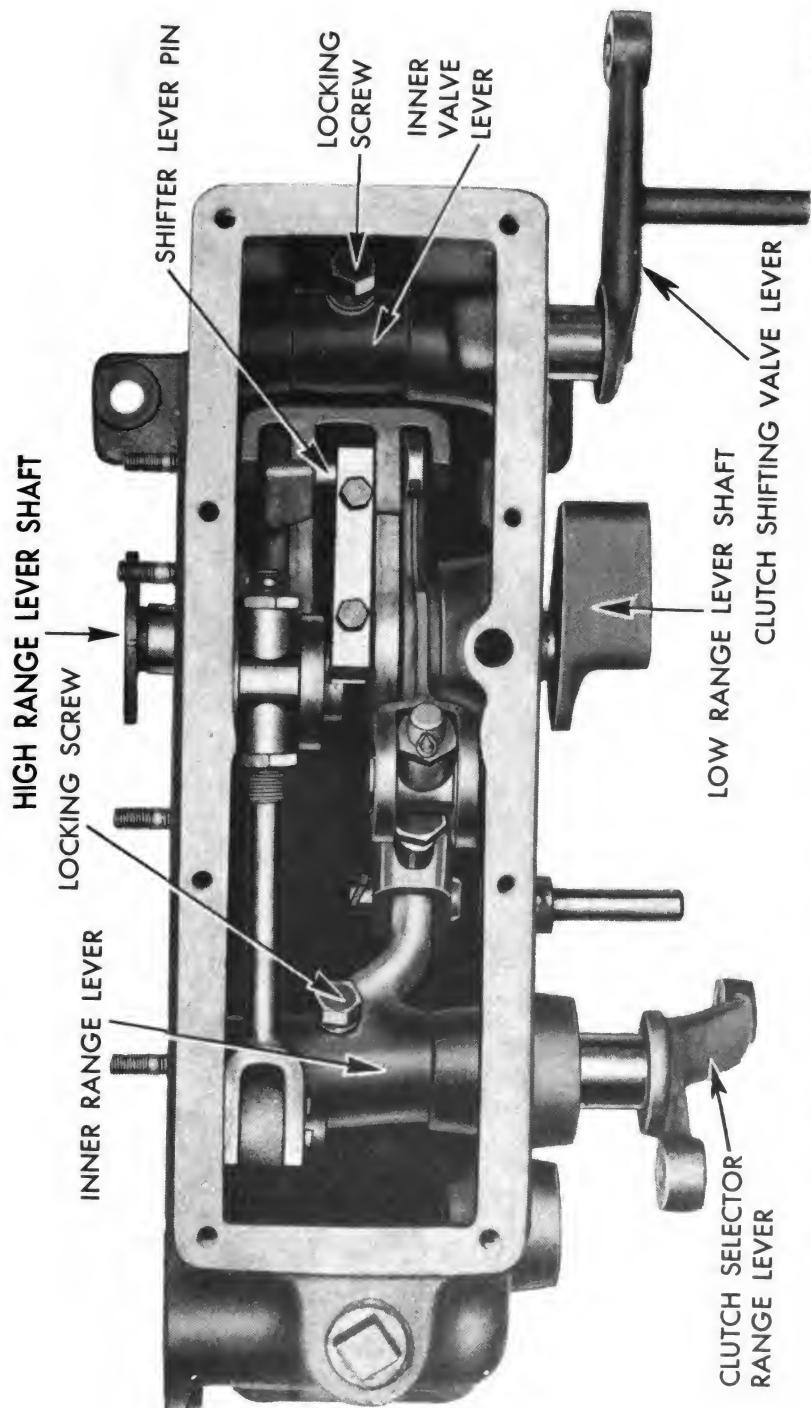
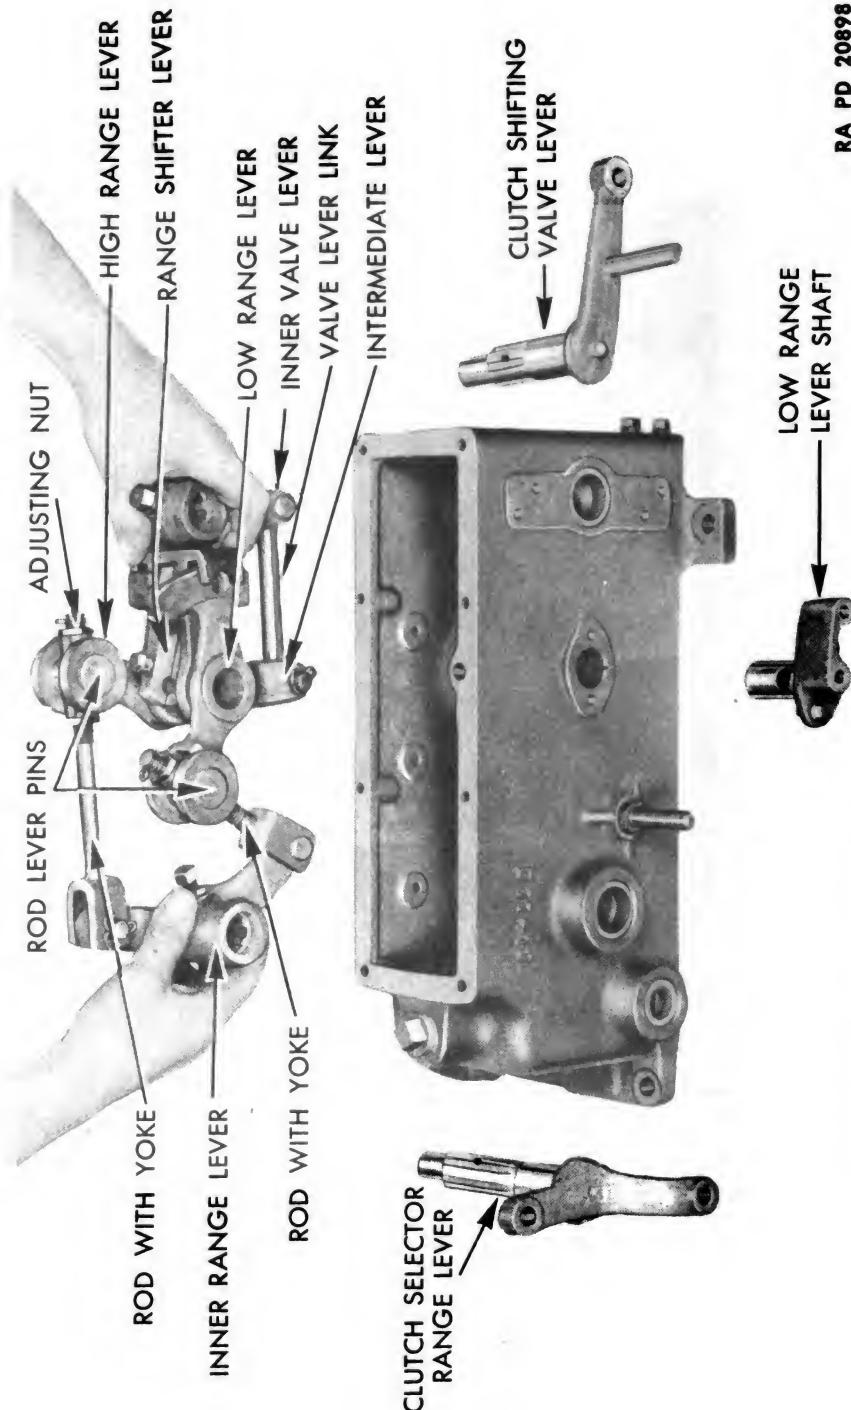

Figure 168 — View in Clutch Selector Housing Preparatory to Removing Lever Assembly
Figure 169 — Removing Lever Assembly from Clutch Selector Housing
(13) REMOVE LEVER ASSEMBLY (fig. 168). Remove two cap screws and lock washers attaching high range lever shaft, and pull shaft out. Remove two cap screws and lock washers attaching low range lever shaft, and pull out shaft and gasket. Remove locking cap screws and lock washers from both inner range lever and inner valve lever. Remove clutch selector range lever and clutch shifting valve lever from housing. Lift lever assembly out of clutch selector housing (fig. 169).
(15) **REMOVE INTERMEDIATE LEVER.** Loosen two cap screws and lock washers clamping two range shifting levers to shifting lever pin, and remove lever, shifting lever pin, and intermediate lever (figs. 168 and 169). *CAUTION: Keep the two range shifting lever cap screws in place so that levers will remain in matched position.* Remove cotter pin and pin attaching valve lever link to intermediate lever.
(16) **REMOVE INNER RANGE LEVER** (fig. 169). Remove two cotter pins and two pins attaching rod with yoke to upper and lower ends of inner range lever, and remove lever.
(6) **INSTALL LEVER ASSEMBLY** (figs. 168 and 169). Place lever assembly inside clutch selector housing. Place clutch shifting valve lever shaft through oil seal and bushing in housing, and through inner valve lever. Be careful not to damage oil seal. Attach in place by tightening locking screw and lock washer. Place new gasket on low-range lever shaft, and insert shaft into housing, and through low-range lever and intermediate lever. Attach low-range lever shaft to clutch selector housing with two cap screws and lock washers. Insert high-range lever shaft into housing and through high-range lever and intermediate lever. Attach high-range lever shaft to clutch selector housing with two cap screws and lock washers. Place clutch selector range lever through oil seal, bushing, and inner-range lever; secure in place by tightening locking screw and lock washer in inner-range lever.